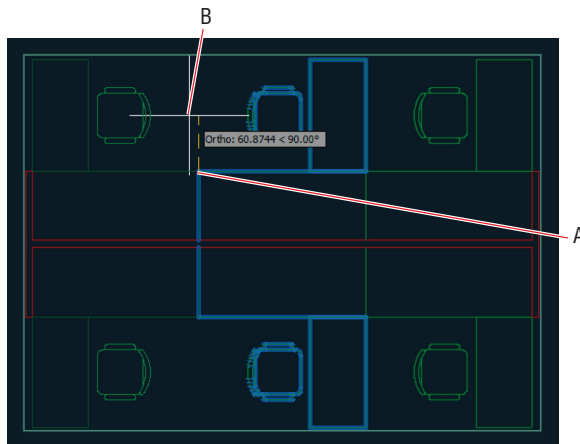

FIGURE 4.26 Mirroring furniture blocks
4. Zoom into the furniture system that is missing two desks in the upper-right quadrant of the building. Toggle on Ortho on the status bar if it is not already on. Click the Mirror tool on the Modify panel. Make crossing and individual line selections to select the desks and chairs shown in Figure 4.26 and press Enter. The command line reads as follows: